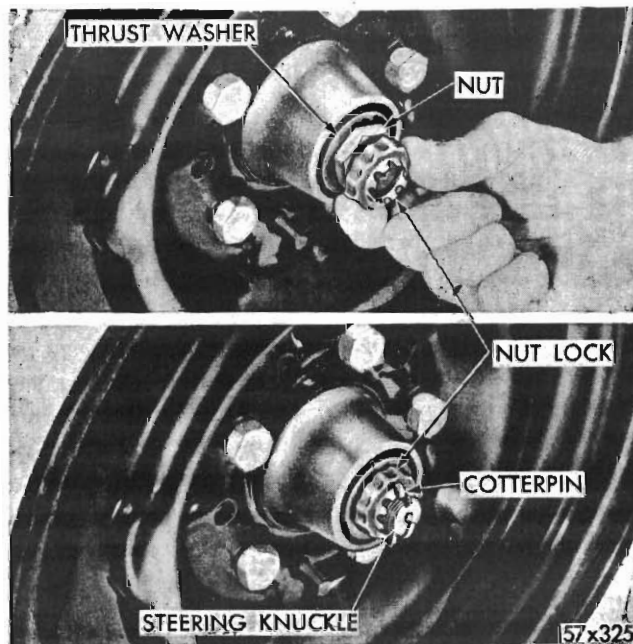

Fig. 8 - Adjusting front wheel bearings
(1) Tighten the wheel bearing adjusting nut to 70 lbs./in. torque whilst rotating the wheel.
(2) Position nut lock on adjusting nut so that one pair of cotter pin slots aligns with pin hole in the spindle (see Fig. 8).
(3) Back off adjusting nut and nut lock assembly one slot and install cotter pin.
(4) Clean the grease cap, coat the inside with wheel bearing lubricant (do not fill) and install the cap.
(5) Install the wheel, tighten nuts to 55 lbs./ft. torque (see Para. 10 for correct tightening sequence). Install wheel cover.